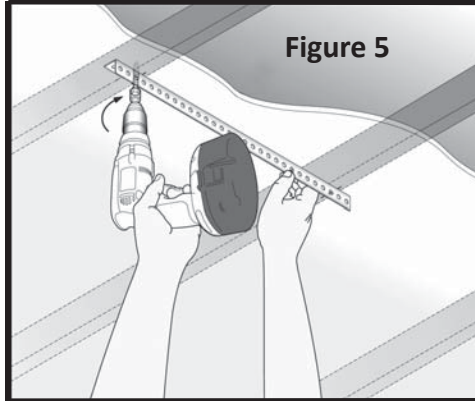

Figure 5
Step 4: Securely fasten each end of the angle to the ceiling joists/beams using (2) 5/16"x1-5/8" Lag Bolts (Figure 5 & 6).